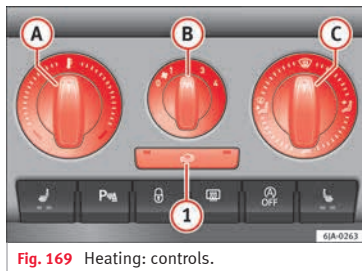

Fig. 169 Heating: controls.
The flow of air from the vents is controlled using control **C** » Fig. 169. Vents **3** » Fig. 168 and **4** can be opened and closed individually.
- Turn rotary control **A** » Fig. 169 clockwise to increase the temperature.
- Turn rotary control **B** » Fig. 169 to position 1 to 4 to switch the blower on.
- Turn rotary control **C** » Fig. 169 to select the air vents » page 147, Air vents you wish to activate.
All controls, except control **B** » Fig. 169, can be set to any intermediate position.
If the rotary switch **C** » Fig. 169 is in the thaw position, the recirculation flap will always be open (button light off).
- Press button **1** » **Fig. 169**, the switch's lamp will light up, indicating that air recirculation inside the vehicle has been activated.